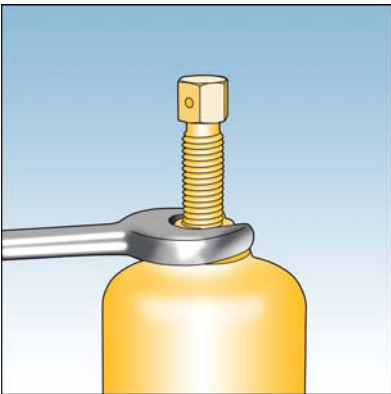

Fig. 2
2. Loosen locknut (19mm A/F) on spring adjusting stem. See Fig. 2.